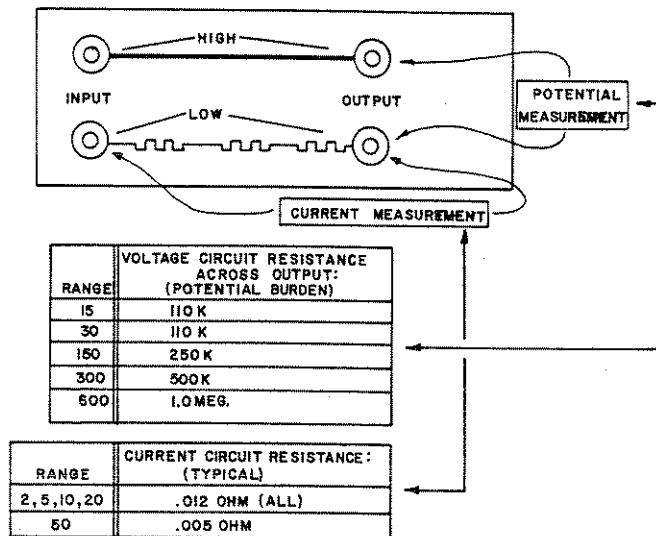

FIGURE 2
Figure 2 shows the internal connections of the power-measurement circuits of this instrument. Note that the input high is directly connected to the output high. For proper operation the current and potential circuits are inseparable, since they share a common point at output low.
10.1 INSTRUMENT-MEASURING BURDENS The Figure 2 charts show actual burdens for the potential and current circuits with values in load resistances. Inductive and capacitive reactive components are internally compensated and insignificant. The burden in VA can be calculated as follows: